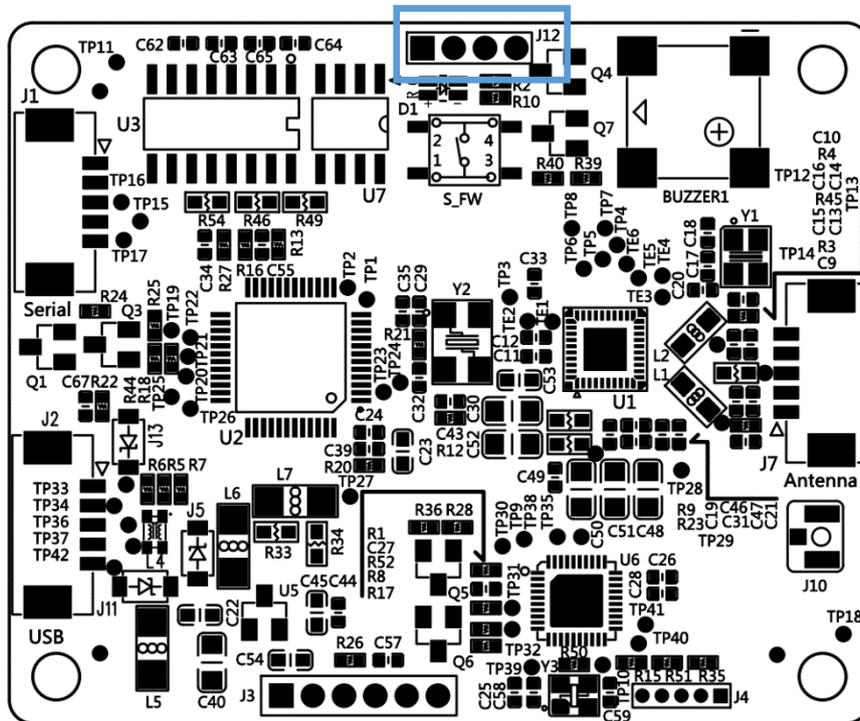
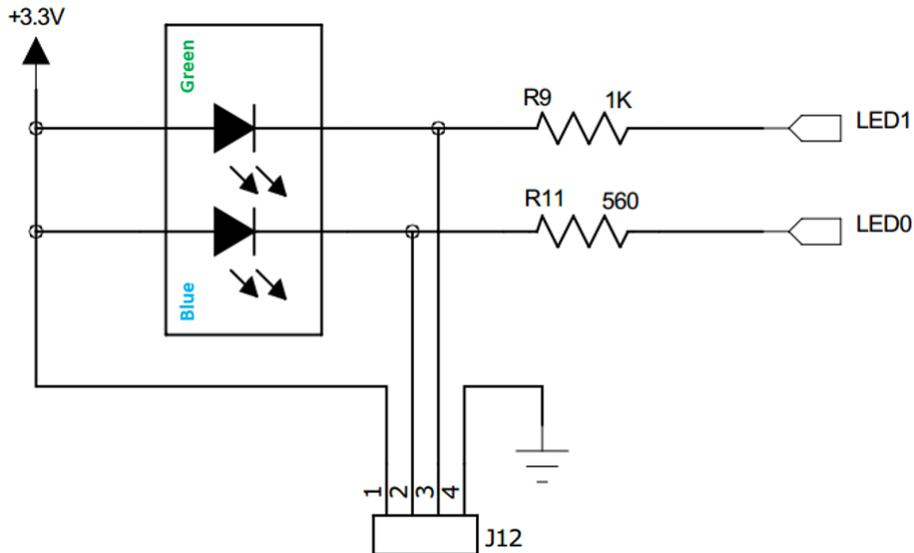

Figure 3: ACM1552U-Y LED Configuration
Figure 4: ACM1552U-Y LED Circuit
1. Connect jumper to **J12** for the LED status of power and card signals (see **Figure 3** and **Figure 4**).